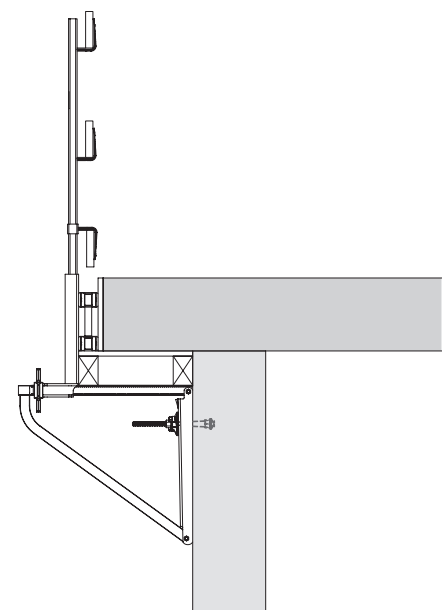

Fig. A2.06
- Concrete the slab with cantilever and fit the toe board. (Fig. A2.06)